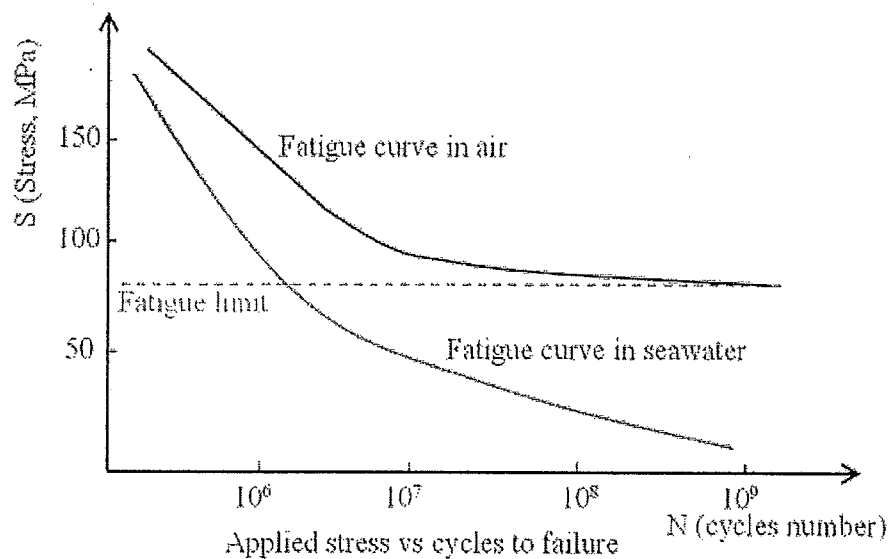

Figure 7 : Bending fatigue S-N curves for Al alloy in air and seawater
6. [a] A bending fatigue test was carried out to study the effect of seawater to the fatigue behavior of Al alloy. The S-N curves are presented in Figure 7.